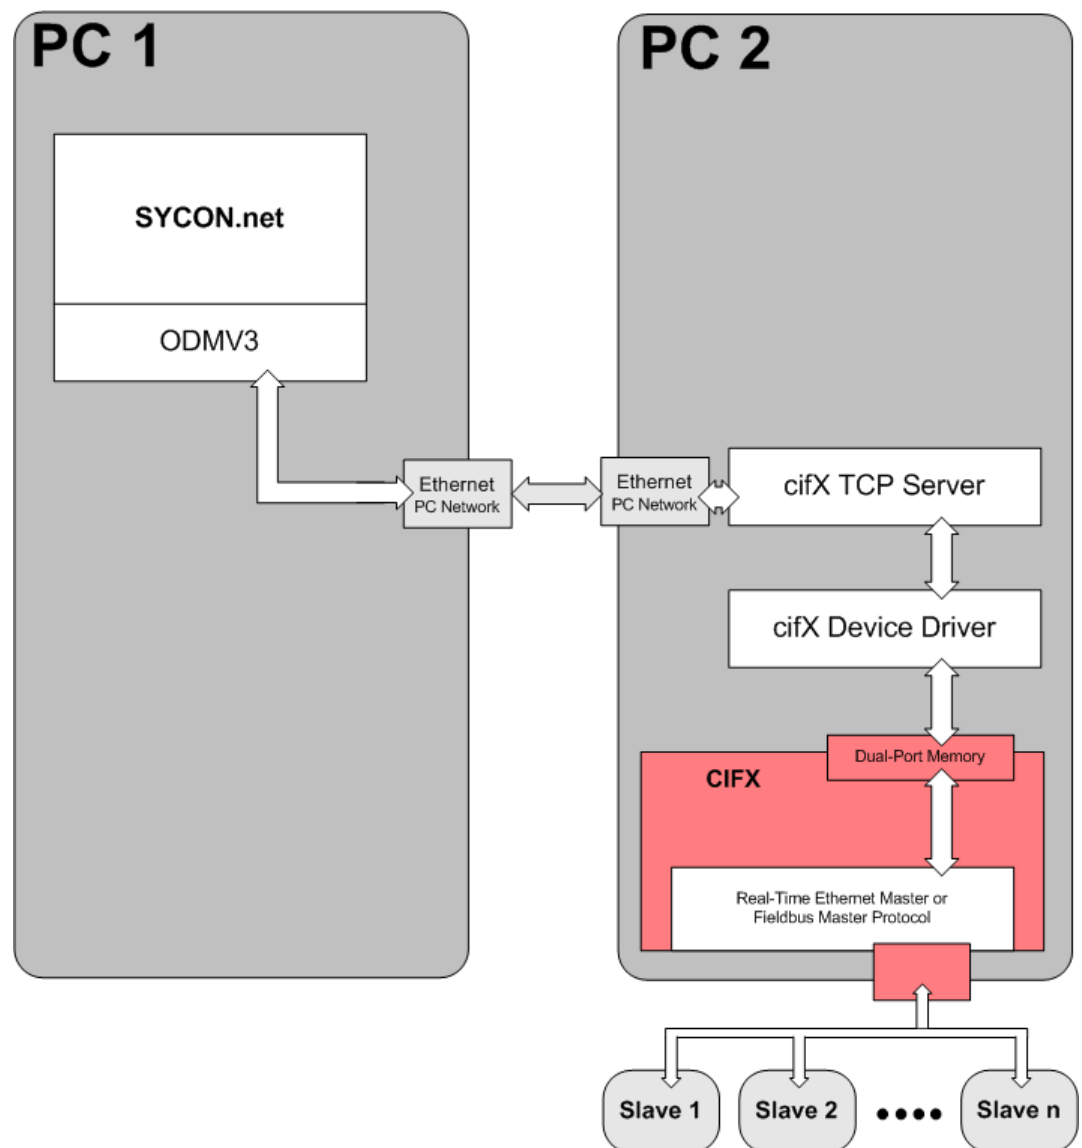

Figure 40: System Overview CIFX (Master) and Diagnosis Connection via Ethernet
The system overview in *Figure 40* shows which components must be installed on which PC and how they communicate together, so that the diagnosis functions can be used.
The *Figure 40* shows the case that the cifX card works as a Master with several connected Slave devices. It is also possible that the cifX card works as a Slave.
1. The connection shown in *Figure 40* can only be used for diagnosis purposes.